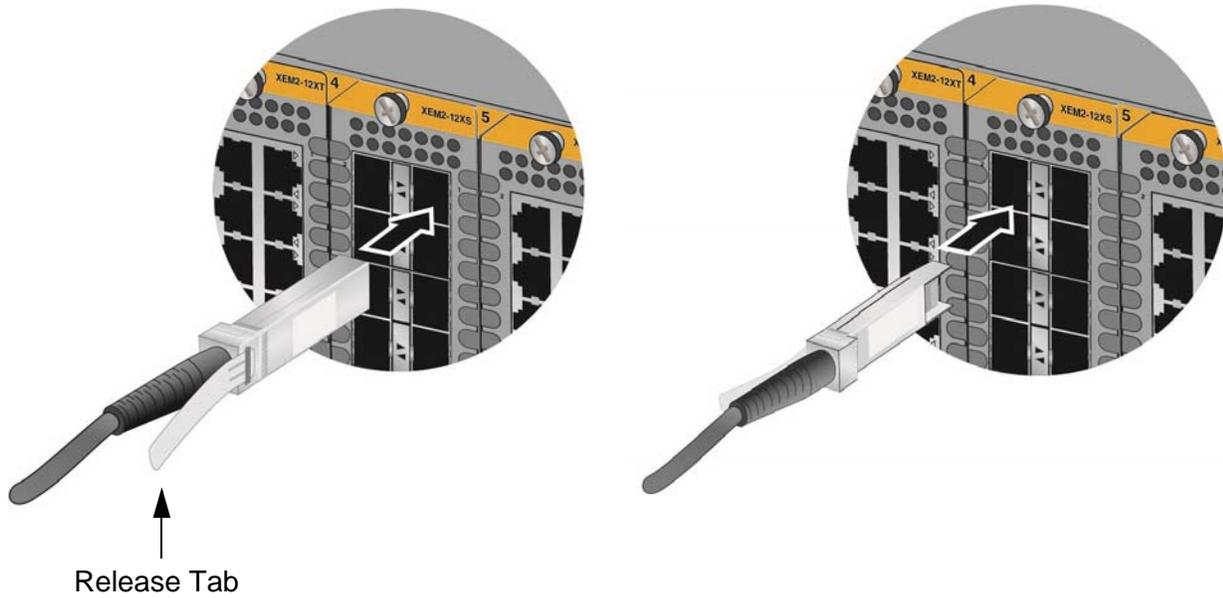

Figure 106. Installing SP10TW Cables in the XEM2-12XS Line Card
- XEM2-8XSTm or XEM2-12XS Line Card - To install a SP10TW direct connect cable in an odd numbered port, position the transceiver with the release tab on the right. To install a cable in an even numbered port, position the release tab on the left. Refer to Figure 106 on page 184. Slide the connector into the port until it clicks into place.